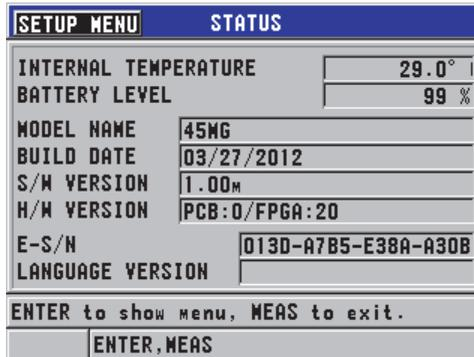

Figure 12-5 Example of the STATUS screen
2. In the **SP MENU** (see Figure 4-2 on page 43), select **STATUS** (see Figure 12-5 on page 201).